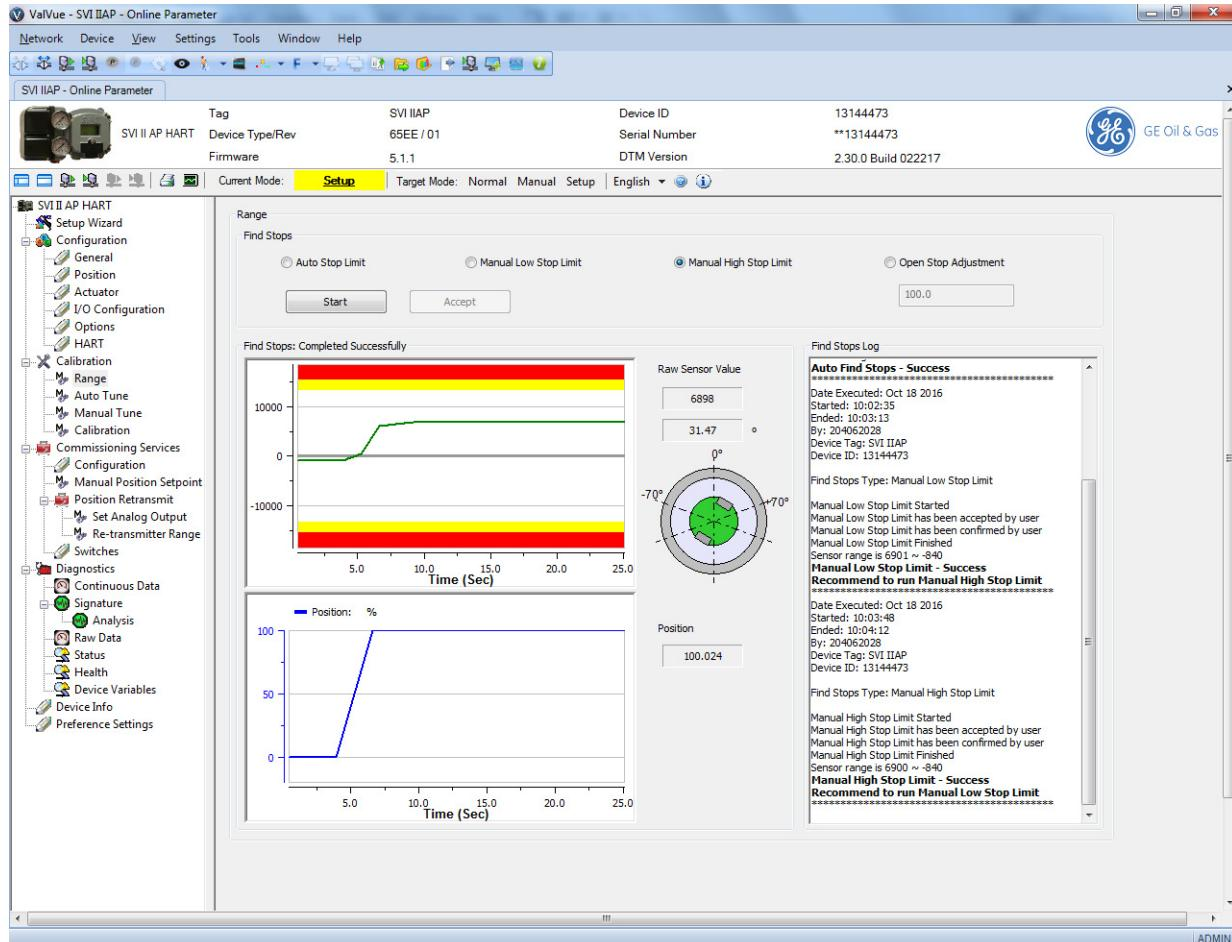

Figure 58 Manual High Stop Limits Results: Succeeded
6. Click **Confirm**, the *Find Stops Log* lists detected values, test results appears (Figure 58) and if the test fails a list of reasons.